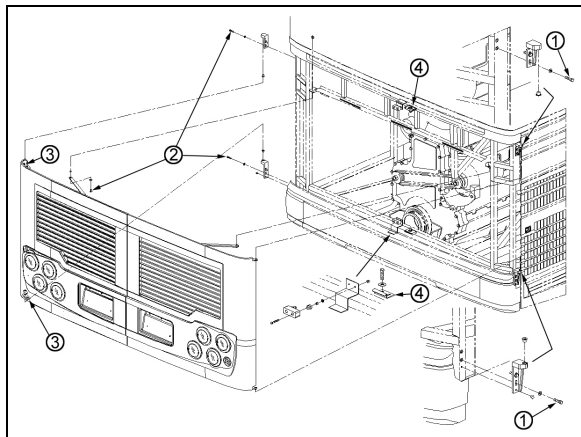

FIGURE 27: ENGINE COMPARTMENT DOORS 18633
1. Loosen the bolts, (1, 2 Fig. 27) holding the hinge to the vehicle structure to shift the door "UP or DOWN".
2. Loosening the bolts (3, Fig. 27) allows the door to be shifted "LEFT or RIGHT" and "IN or OUT".
To adjust the latch mechanism (4, Fig. 27) and the striker pin: